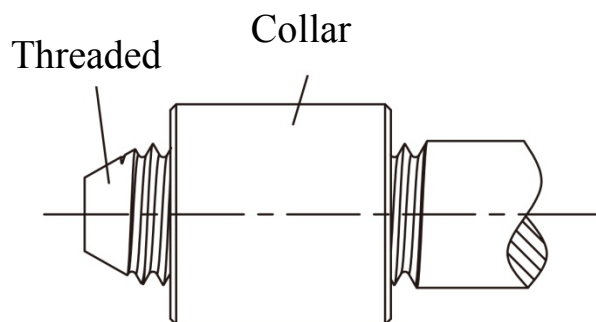

Figure 2
- 2) Remain two-three circles of threads when screw the collar as indicated in the Figure 2.